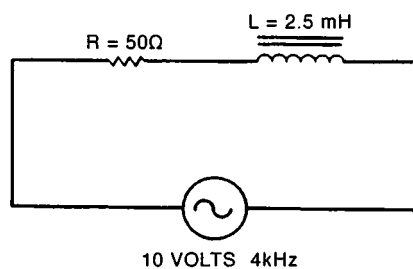

Figure 4-35
9. Refer to Figure 4-35. The impedance of the circuit is approximately:
10. The voltage across the resistor in Figure 4-35 is approximately:
11. The phase shift in the circuit of Figure 4-35 is approximately:
12. The power that is dissipated in the circuit of Figure 4-35 is approximately:
13. The cut-off frequency in the circuit of Figure 4-35 is approximately:
14. The Q of the circuit in Figure 4-35 is approximately: